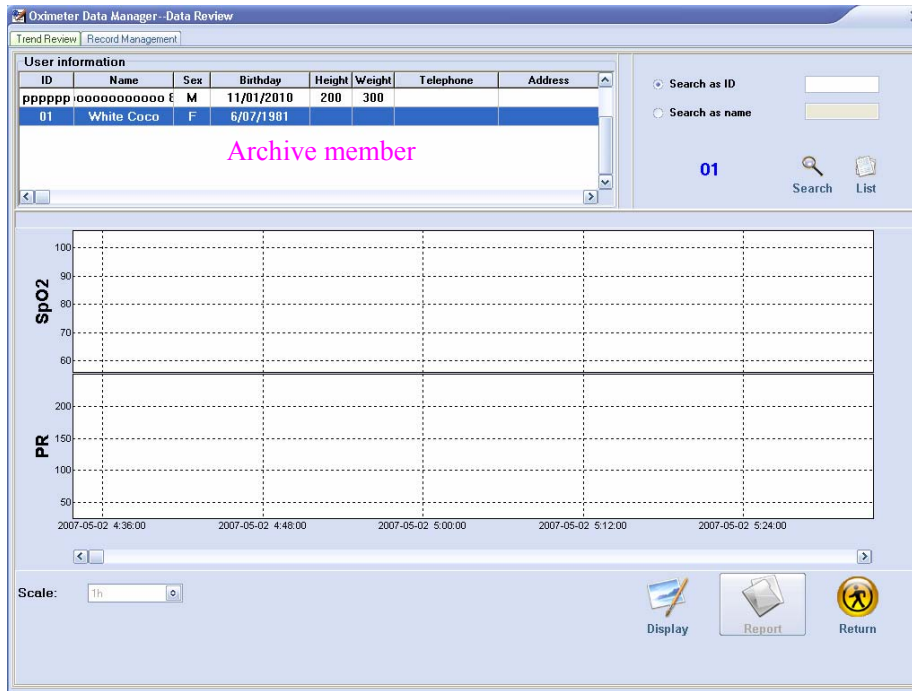

Figure 3-8 Data Review
1. On main menu window, select “Data Review” to enter into data review screen, as shown in Figure 3-8. There are two tabs: Trend Review and Record Management.